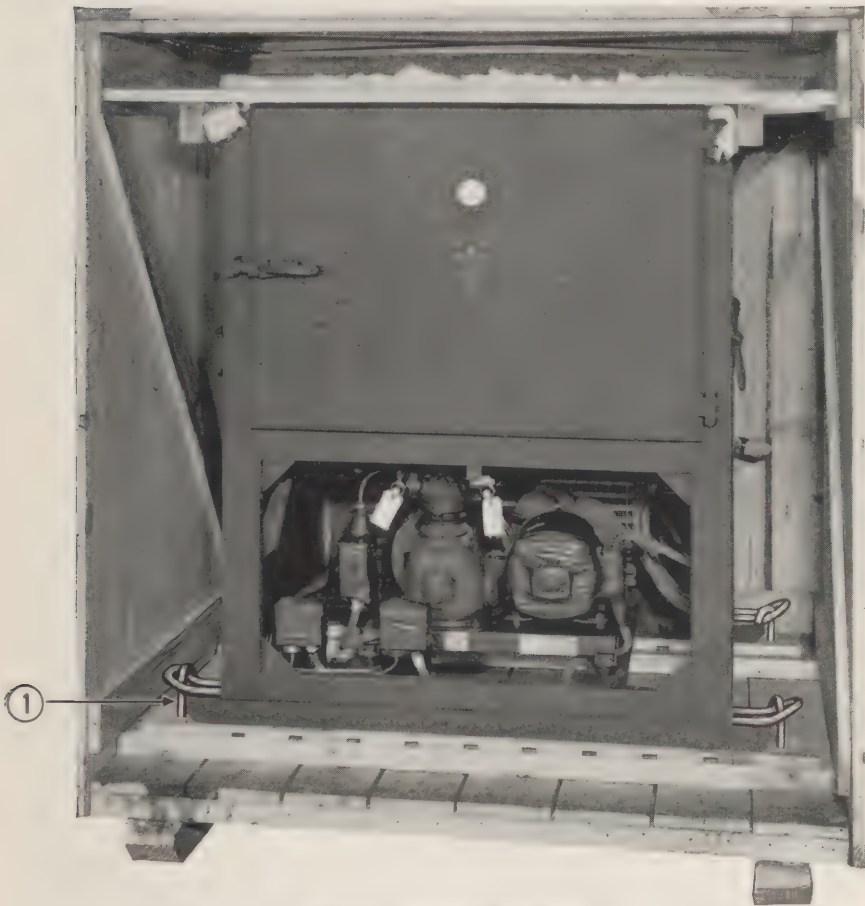

Figure 12. Uncrating refrigerator.
**a. Uncrating the Refrigerator.** The crated refrigerator should be moved to the location of operation before being uncrated. When the refrigerator is to be used the crate must be removed (fig 12) and the following steps taken to prepare the refrigerator for operation. To remove the crate proceed as follows:
- (1) Remove the 3 steel bands with a pinch bar or similar tool.
- (2) With a nail puller remove all nails from the 4 sides and the top.
- (3) Remove the packing brace framed around the top of the cabinet.
- (4) To remove the refrigerator from the packing base, work from the under side of the base, and by tilting the refrigerator forward and back the 4 J-bolt nuts can be removed, allowing the 4 J-bolts to be free for removal (fig 12, item 1).
- (5) With the J-bolts removed, the refrigerator is now free and can be lifted from the packing base.